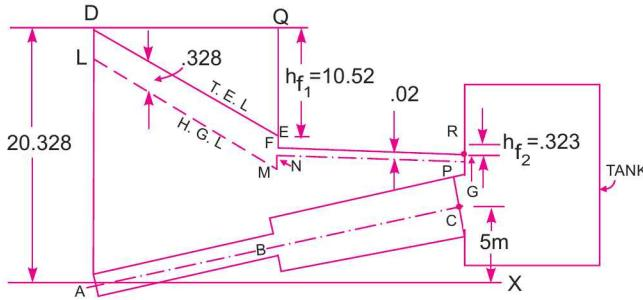

Fig. 11.11
**Total Energy Line.** Draw a horizontal line AX as shown in Fig. 11.11. The centre-line of the pipe is drawn in such a way that slope of pipe is 1 in 40. Thus the point C will be at a height of  $\frac{1}{40} \times 200 = 5 \text{ m}$  from the line AX. Now draw a vertical line AD equal to total energy at A, i.e.,  $AD = 20.328 \text{ m}$ . From point D, draw a horizontal line and from point B, a vertical line, meeting at Q. From Q, take vertical distance  $QE = h_{f_1} = 10.52 \text{ m}$ . Join DE. From E, take  $EF = h_e = 0.186 \text{ m}$ . From F, draw a horizontal line and from C, a vertical line meeting at R. From R take  $RG = h_{f_2} = 0.323 \text{ m}$ . Join F to G. Then DEFG represents the total energy line.